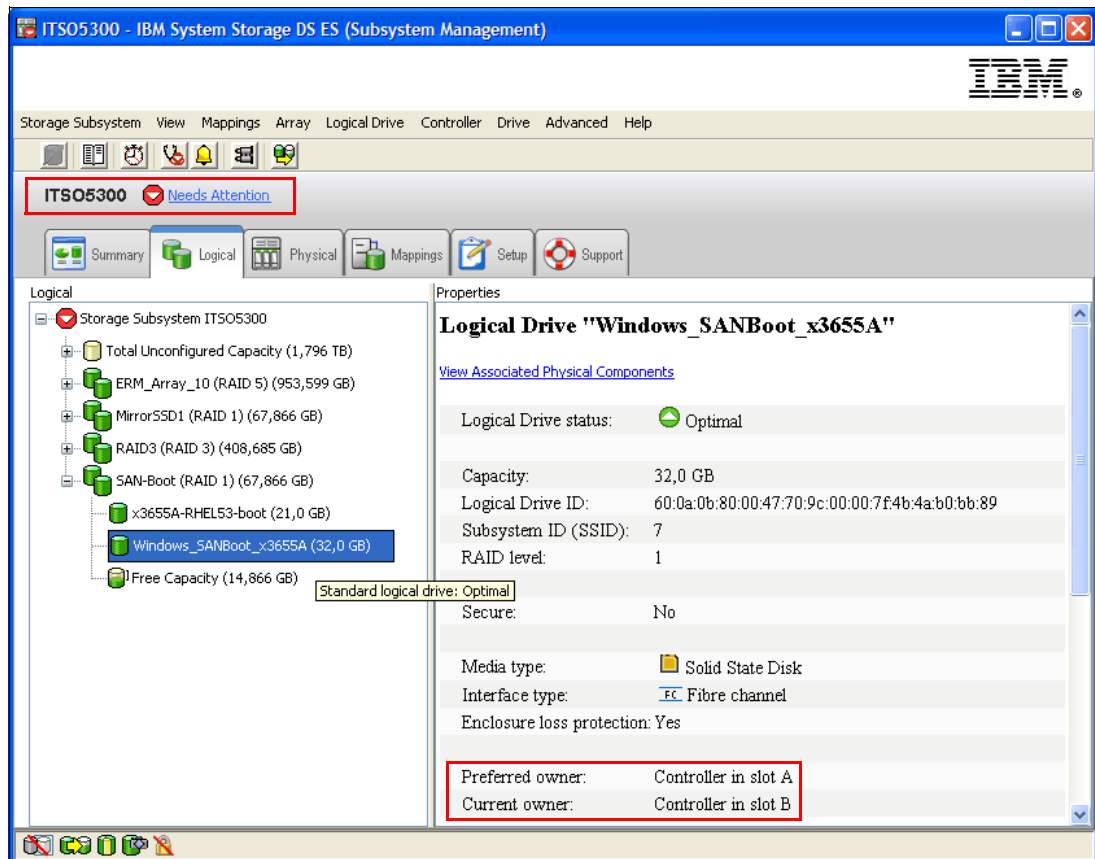

Figure 6-59 Controller B takes ownership
3. Within 120 seconds, the multipath driver will cause a failover to the secondary path, which is attached to controller B on the DS5000 storage subsystem (Figure 6-59).